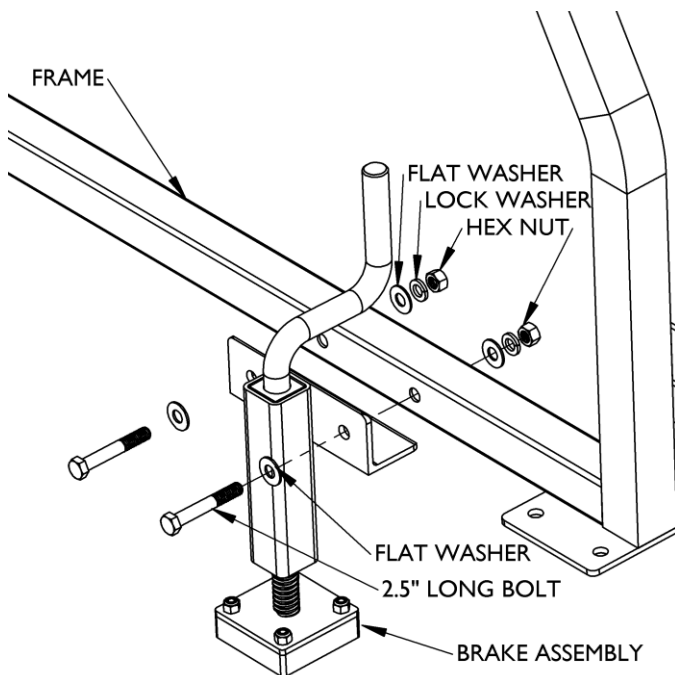

Figure 7
- Secure brake assemblies to each frame using 2.5" long bolt as shown in Figure 7. Tighten with 9/16" wrenches.